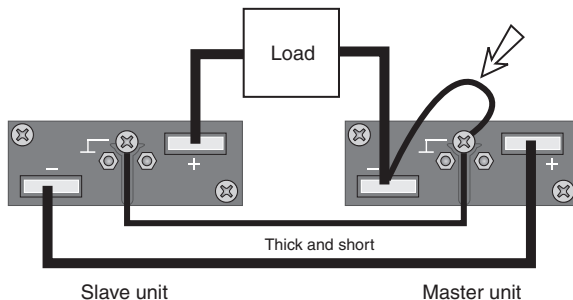

Fig.5-3 Load Connection for Series Operation
3. Connect the load cable and chassis cable as shown in Fig.5-3.